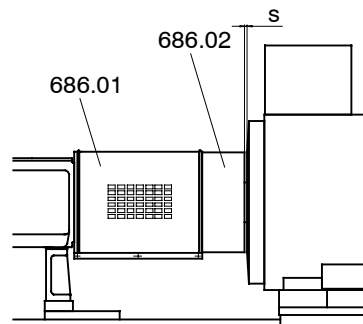

Fig. 22
- 11 Fix the coupling guard jackets (686.01) and (686.02). The coupling guard must be adjusted so that the space "s" between the coupling guard and motor is approx. (0.2 in) 5 mm. Fig. 22.